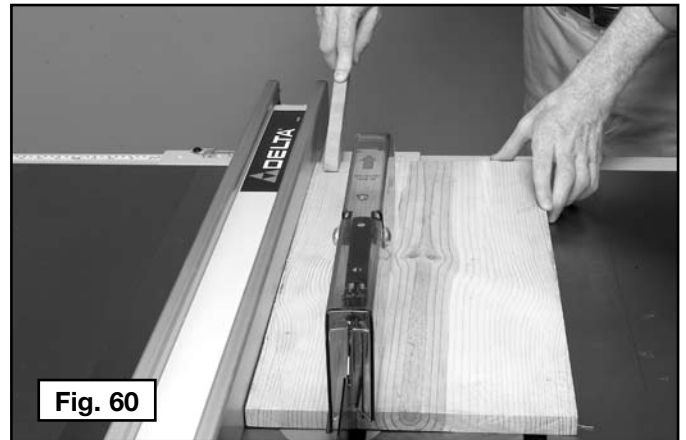

Fig. 60
3. If the size or shape of the workpiece would cause your hands to be within six inches of the saw blade, use a push stick to complete the cut (Fig. 60). The push stick can easily be made from scrap material as explained in the section **"CONSTRUCTING A PUSH STICK."**